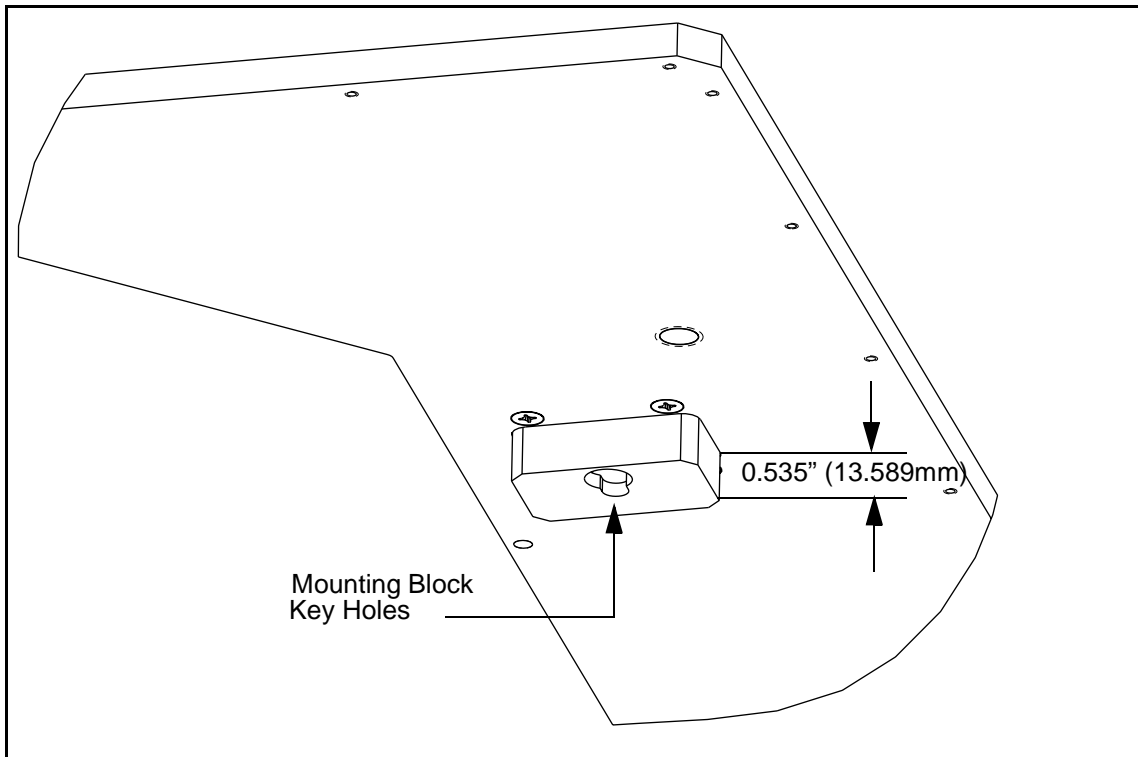
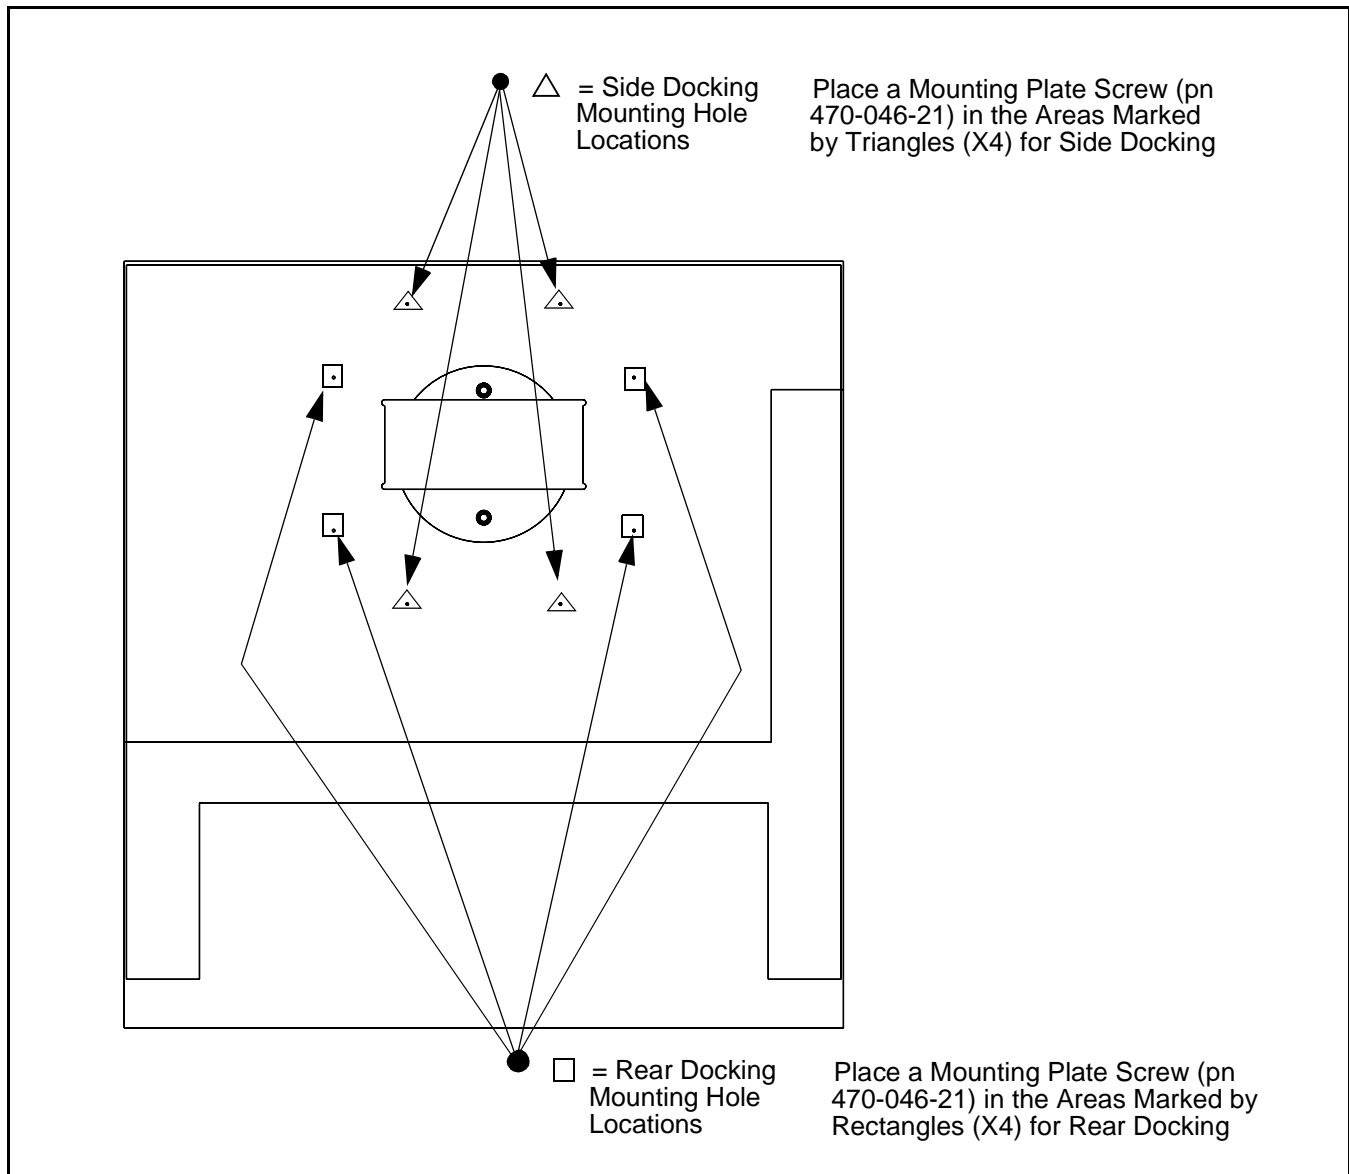

Figure 6 Verify Proper Mounting Block Z Stack Height
Figure 7 View of the Handler Mounting Plane as Seen if You Could Look Down Through the Top of the Handler
- 1) Prior to mounting the interface assembly plate to the handler, verify that the interface's "key hole" mounting blocks provide the required Z-stack dimensions. The standard Delta Edge interface positions the handler side of the interface board 0.625 inches (15.875mm) away from the handler mounting plate. If your docking requirements are different from this, contact your Teradyne sales person to obtain the proper mounting blocks (See Figure 6). Refer to *Appendix B: Changing the Z-Height or Mounting Block Orientation of a Tiger, FLEX, or Catalyst Handler Interface* for more information.
- 2) Place a mounting plate screw (1/4-20 X 3/4" socket head cap)(pn 470-046-21) in each of the four mounting plane holes indicated by a triangle (for side docking) or by a rectangle (for rear docking) as show in Figure 7. Leave about 1/2" (13mm) of the screw head exposed to allow the interface assembly plate to be loosely fastened at the four mounting block "key holes." See Figure 6.